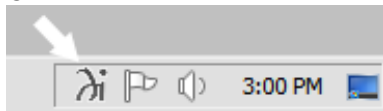

Figure 11
1. Click on the “WADIA ICON” (located in the Windows notification area on the right side of the taskbar) or click on the Windows “Show hidden icons”, then select the “WADIA ICON”. Refer to figures 11, 12 and 13.